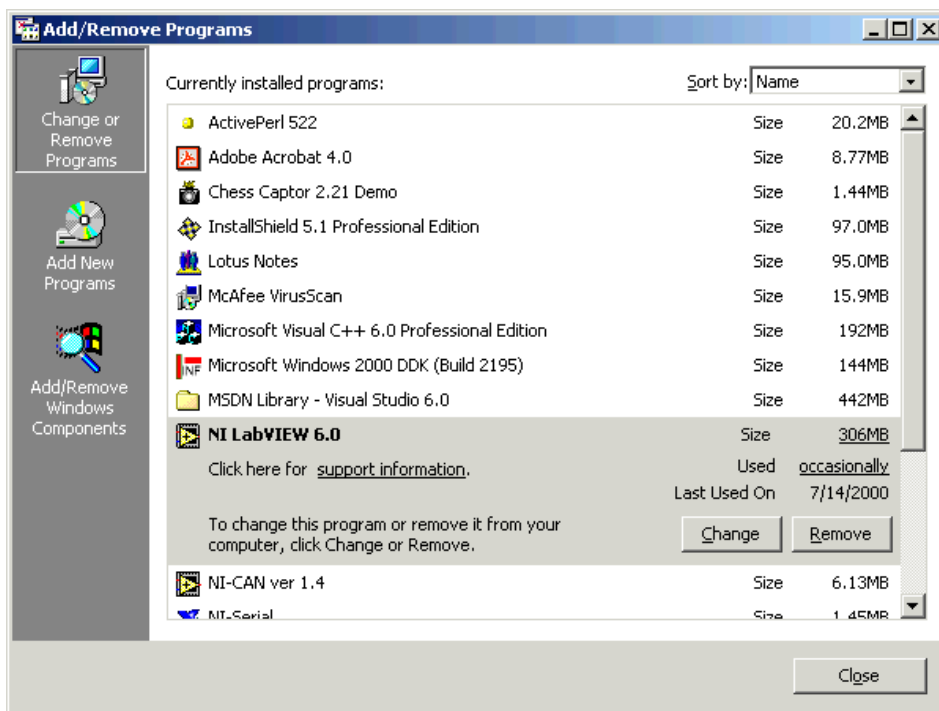

Figure 2-1. Add/Remove Programs Dialog Box
2. Double-click on the **Add/Remove Programs** icon. A dialog box similar to the one shown in Figure 2-1 appears.